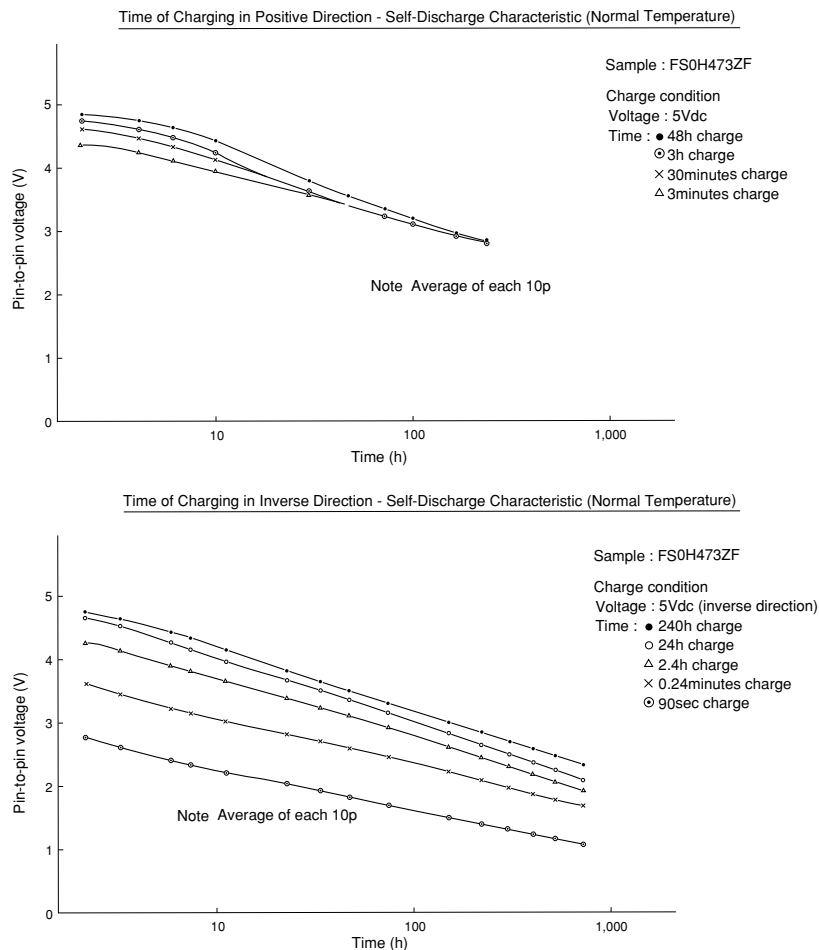

Fig. 46 Voltage Retention Characteristic for Normal and Inverse Connections
(1) There is no influence on the long-term reliability of a SuperCapacitor.
(2) In the manufacturing process, the SuperCapacitor is processed with a voltage applied in the positive direction. For this reason, there may be cases where a small amount of charge still remains. There is also a SuperCapacitor specific phenomenon in which a voltage which was previously applied returns. Special care is required to avoid damage to semiconductors, etc. which are vulnerable to an inverse voltage.
(3) Figure 46 shows the voltage retention characteristic for normal and inverse connections. It is seen from Figure 46 that the voltage retention characteristic deteriorates. However, even in the case of inverse connection, if the time of inverse charging exceeds 100 hours, it shows the same self-discharge characteristic as charging in the positive direction.